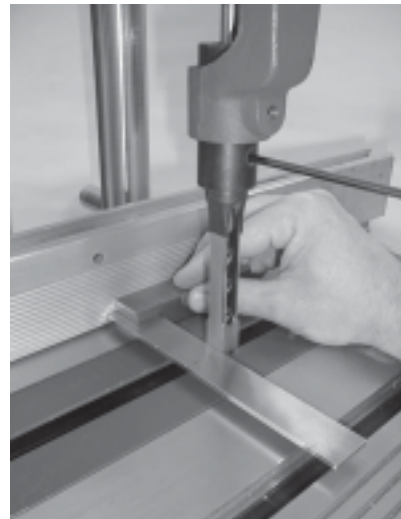

Figure 6
10. Square the chisel face with the fence, see Figure 6. Tighten setscrew in the adjustable sleeve.
located at right angles to the fence, check it with a square. See Figure 6.